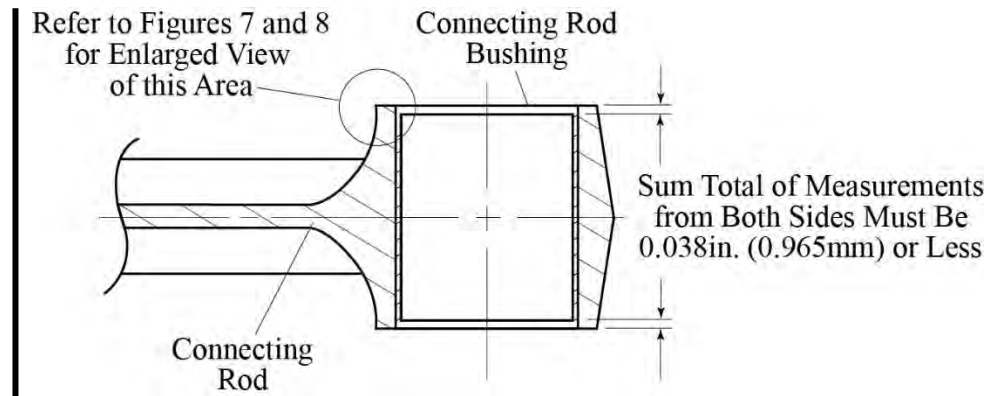
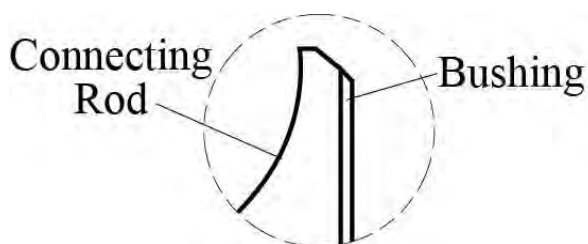

Figure 6
Figure 7
REASON FOR REVISION: Revised MODELS AFFECTED and TIME OF COMPLIANCE; revised the first paragraph on page 1. Deleted the NOTICE to contact Lycoming for data collection. Revised Figure 6 and added new caption to Figures 7 and 8. Added Section 2 for inspection of engines shipped from Lycoming and engines that had connecting rod assemblies or connecting rod bushings replaced in the field with connecting rod assemblies or connecting rod bushings shipped from Lycoming during the stated date range.
- (5) Measure the distance from the surface of the connecting rod to the edge of the connecting rod bushing installed in the connecting rod (Figure 6) on both sides of the connecting rod.
- (1) If the chamfer of the connecting rod and the chamfer of the connecting rod bushing align (Figure 7), this feature is acceptable. Go to Step 2 on the next page.
| Enlarged View of Circled Area Indicated in Figure 6